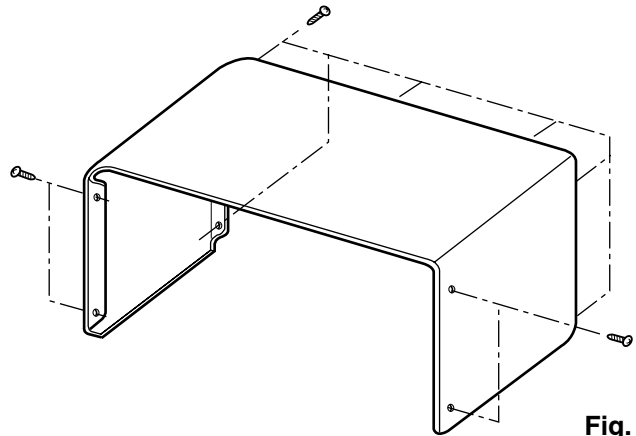

Fig. 14
A. REMOVING OUTER CASE (FIG. 14)
- (1) Remove four screws from the side section.
- (2) Remove seven screws from the rear section.
- (3) Push the outer case back about 1 inch (3cm) to free it from the front plate.
- (4) Lift the case from the set.